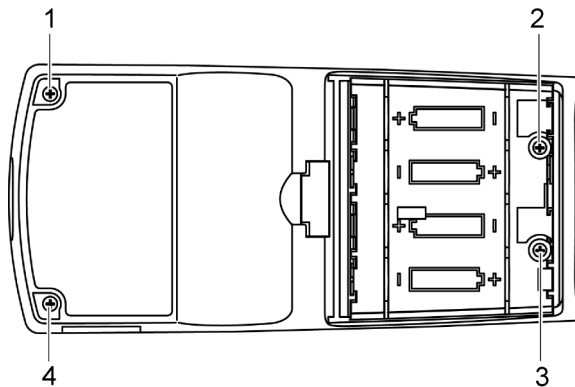

**Figure 4: Installing Batteries**
2. Remove the battery cover: pull the battery cover latch downward toward the bottom of the NPB-40 case and lift the battery cover. See Figure 4, item 1.